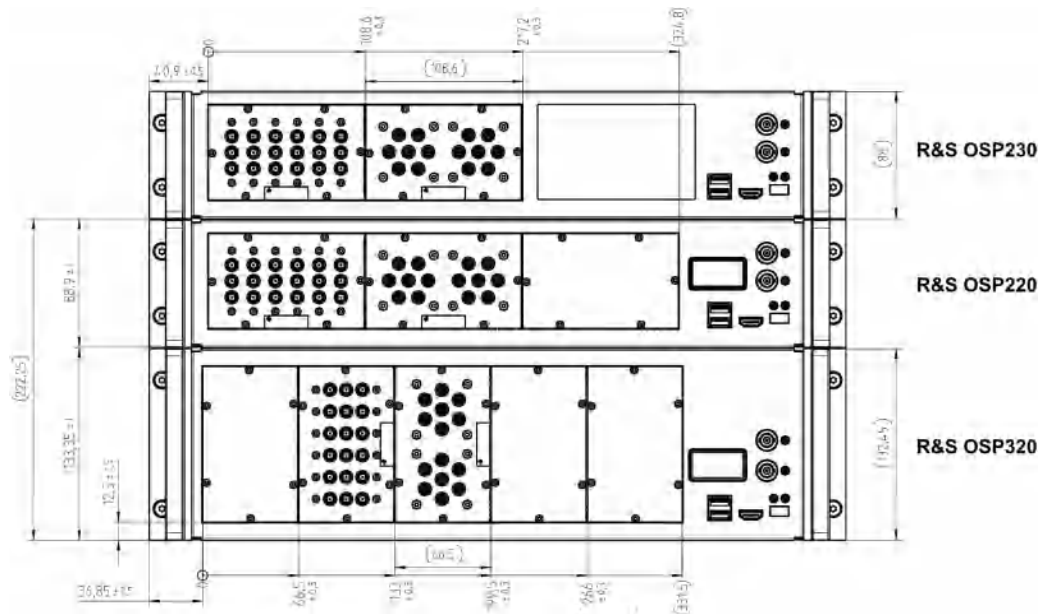
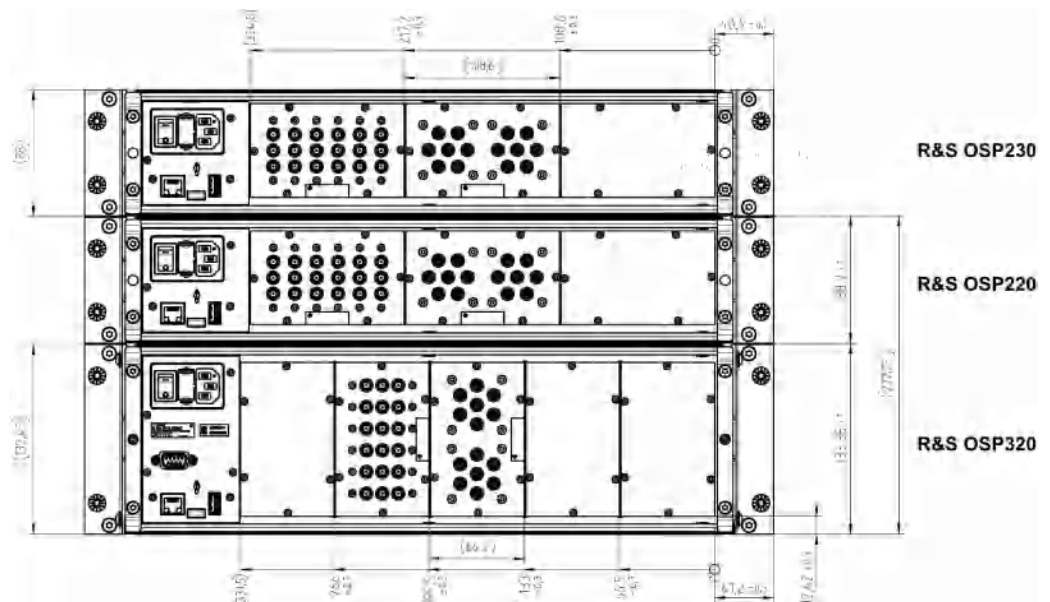

Figure A-1: Front panels of the units as mounted in a 19" rack
Figure A-2: Rear panels of the units as mounted in a 19" rack
- Figure A-1 and Figure A-2 show the units as mounted in a 19" rack